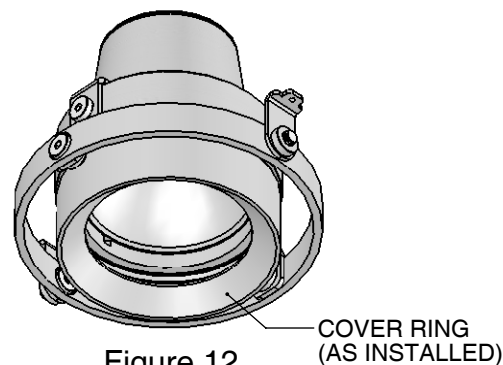

Figure 12
20. Once lined up, push straight back until the COVER RING stops, then while keeping the COVER RING pushed back, turn *clockwise* until it pushes forward again slightly. See Fig. 12.